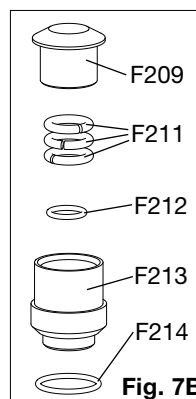

Fig. 7B
**NOTE:** These O-rings are split-type O-rings. When replacing them, ensure that the splits do not align. Rotate the splits at approximately 30 degree intervals (see fig. 7B).